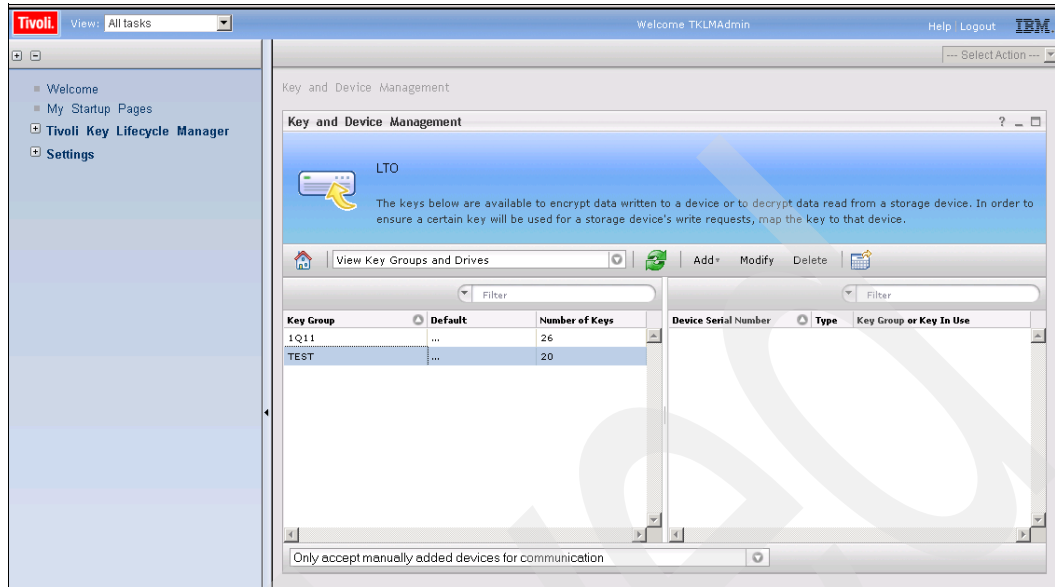

Figure 9-51 LTO key group highlighted for deletion
3. Highlight the LTO key group that is to be deleted and click **Delete** (Figure 9-51).